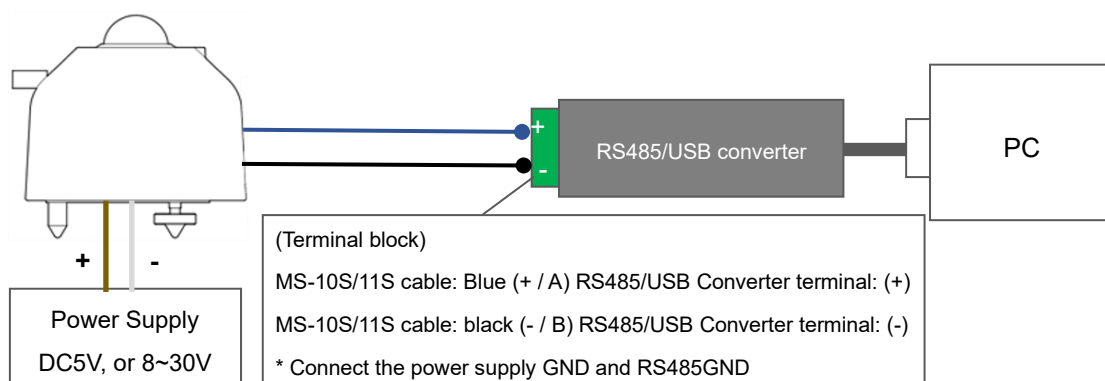

Figure A2-1. Hardware preparation
- 3) Connect the power lines of the signal cable to the power supply (DC5V or 8 to 30V), and turn on the power supply. (Refer to Figure A2-1.)